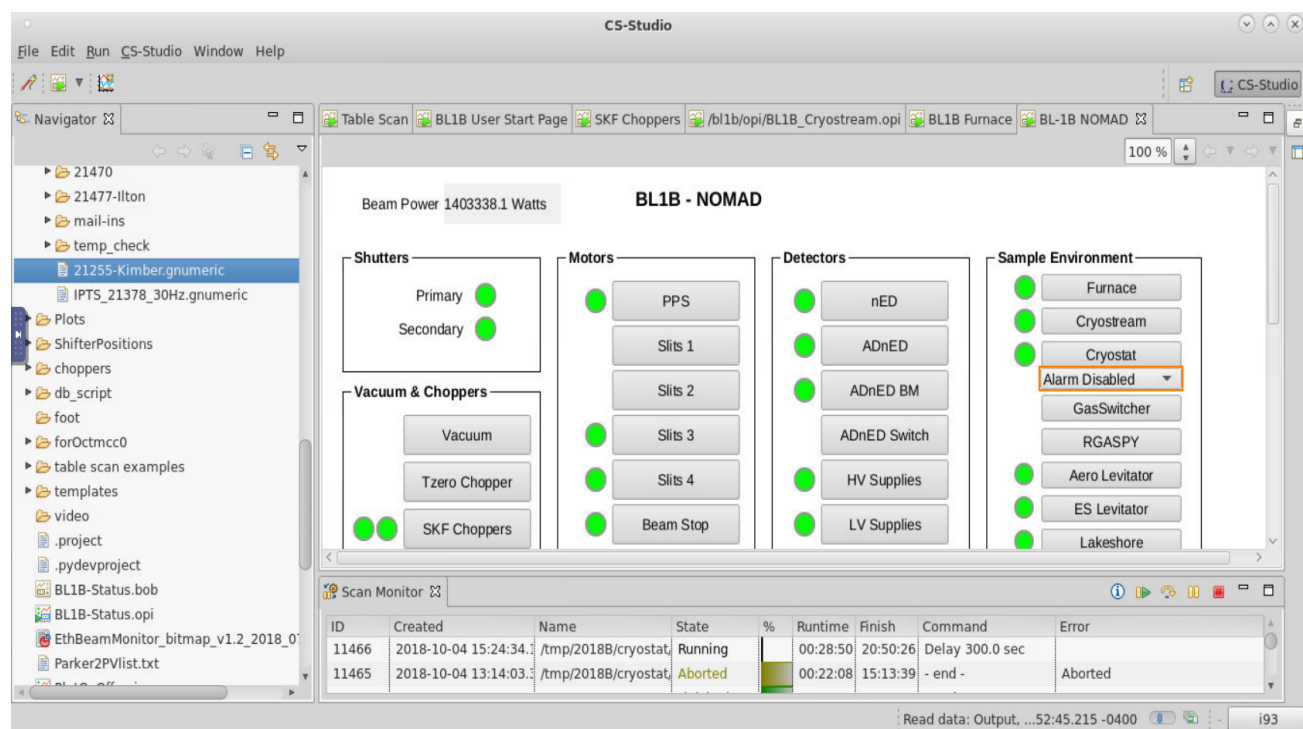
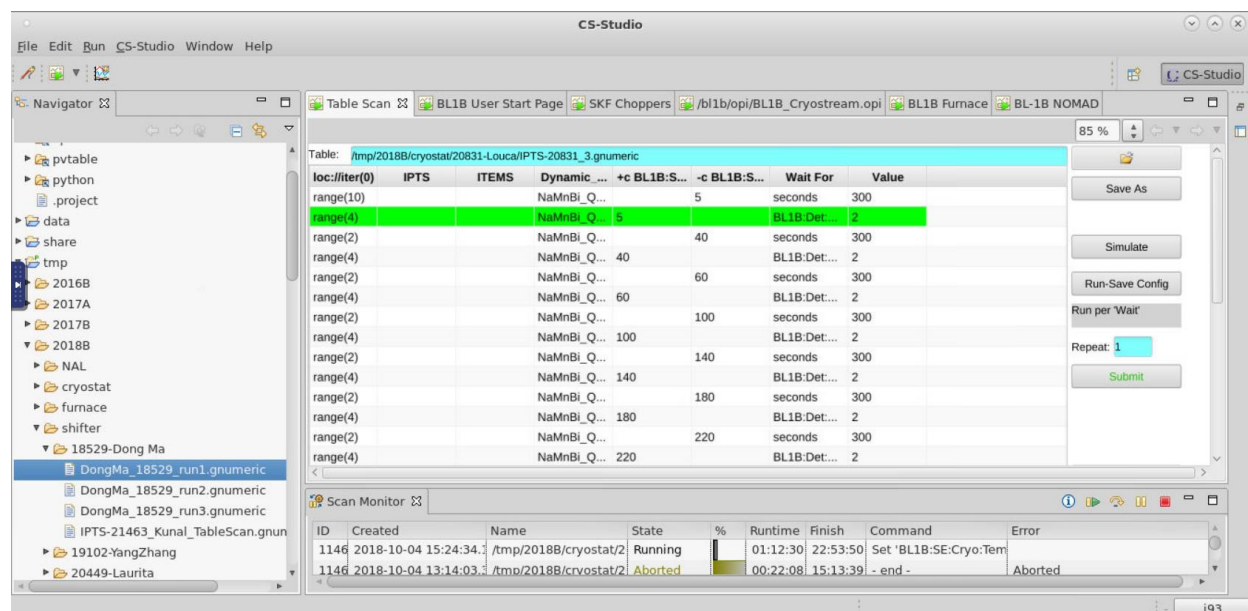

Figure 6. Additional screens shown on the left monitor of the control computer, showing controls of beamline equipment.
Figure 9. Additional screens shown on the left monitor of the control computer, showing table scan controls.
Additional screens (Figure 6) are available on the left monitor of the das-opi control computer with more instrument controls information. The Navigator pane on the extreme left displays the file structure. Files may be opened from the Navigator pane by double-clicking. To the right of the Navigator pane is the section containing several tabs with more information about the beamline equipment, along with the Scan Monitor pane at the bottom. The BL-1B NOMAD tab has indicator lights for the status of each piece of beamline equipment. All status lights should be green when functioning properly. The Table Scan tab contains table scan controls as will be described in detail below (Figure 9). The BL1B\_User\_Start\_Page tab allows users to start and stop data acquisition manually. The BL1B\_SKF\_Choppers tab shows status lights for each of the three bandwidth choppers, along with the frequency and phase settings. The Cryostream tab shows the status of the sample changer (Shifter). The Furnace tab shows the temperature controls and plots, as in the Dashboard (Figure 4). Other tabs may be present depending on the sample environment equipment installed at the beamline.
The preferred mode of data collection is using table scans (Figure 9), which are spreadsheet files that lay out the desired data collection and instrument steps, e.g. count time, sample temperature and sample changer position. User table scans are saved in the folder temp/cycle/SE/IPTS-XXXXX, where cycle is the run cycle (e.g. 2018B), SE is the sample environment (e.g. shifter) and XXXXX is the proposal number. Example scripts for each instrument setup are in the temp/cycle/SE/example\_scripts folder. They may be opened and changed with the Gnumeric program.
**Simulation** Once your table scan file is prepared, you may simulate it. The program will run through the script, line-by-line, without actually changing any parameters, and estimate the total time. To simulate a script, it must first be loaded into the EPICS software. On the Table Scan pane (Figure 9), click on the folder icon. Browse to and select your file. Once the correct path and filename are displayed to the left of the folder button, press the Load button. The table below should be filled with the entries from your script. Finally, press the Simulate button. On the left monitor, in-between the Navigator pane and the Table Scan pane, the simulation output will be displayed. Each change of an instrument setting will be outlined, along with the estimated time to execute each line of the script, and at the bottom, the total estimated time to execute the entire script. Check the simulation output carefully to ensure that everything is as expected.
**Submitting a Script** Once your script is ready and the simulation output has been verified, you may run your script by pressing the Submit button (Figure 9). A line will be added to the top of the Scan Monitor pane (Figure 6), representing that script. The Scan Monitor shows the filename, status (Aborted, Failed, Finished or Running), runtime, estimated finish time and which command is currently executing. Double clicking a script in the Scan Monitor pane displays the Scan Editor, which shows the list of commands to be executed, with the current command highlighted in green text.
To abort a currently running script, you may press the Abort button on the Scan Monitor Pane (Figure 6), which looks like a red square. You may also pause and resume a currently running script by pressing the appropriate buttons on the Scan Monitor Pane.